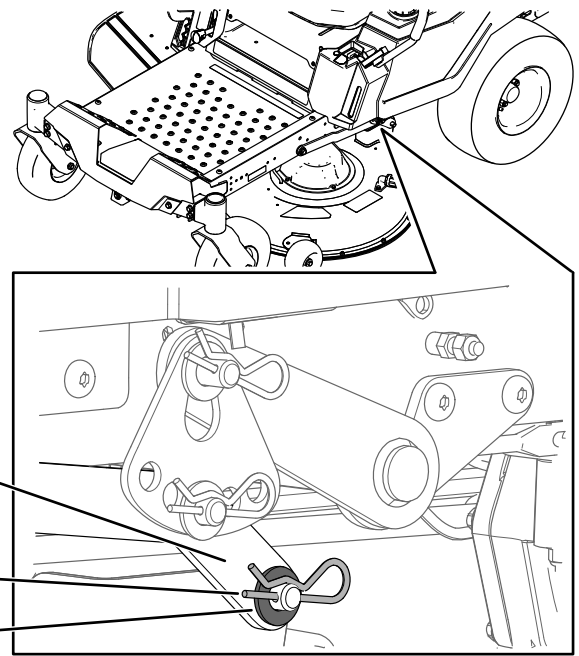

Figure 68
6. On 1 side of the machine, remove the washer and hairpin cotter from the deck pin (Figure 68).
7. Remove the lift arm from the deck pin (Figure 68).
5. On 1 side of the machine, lift the rear of the mower deck and install the lift arm to the deck pin (Figure 68).
6. Install the lift arm using the washer and hairpin cotter (Figure 68).